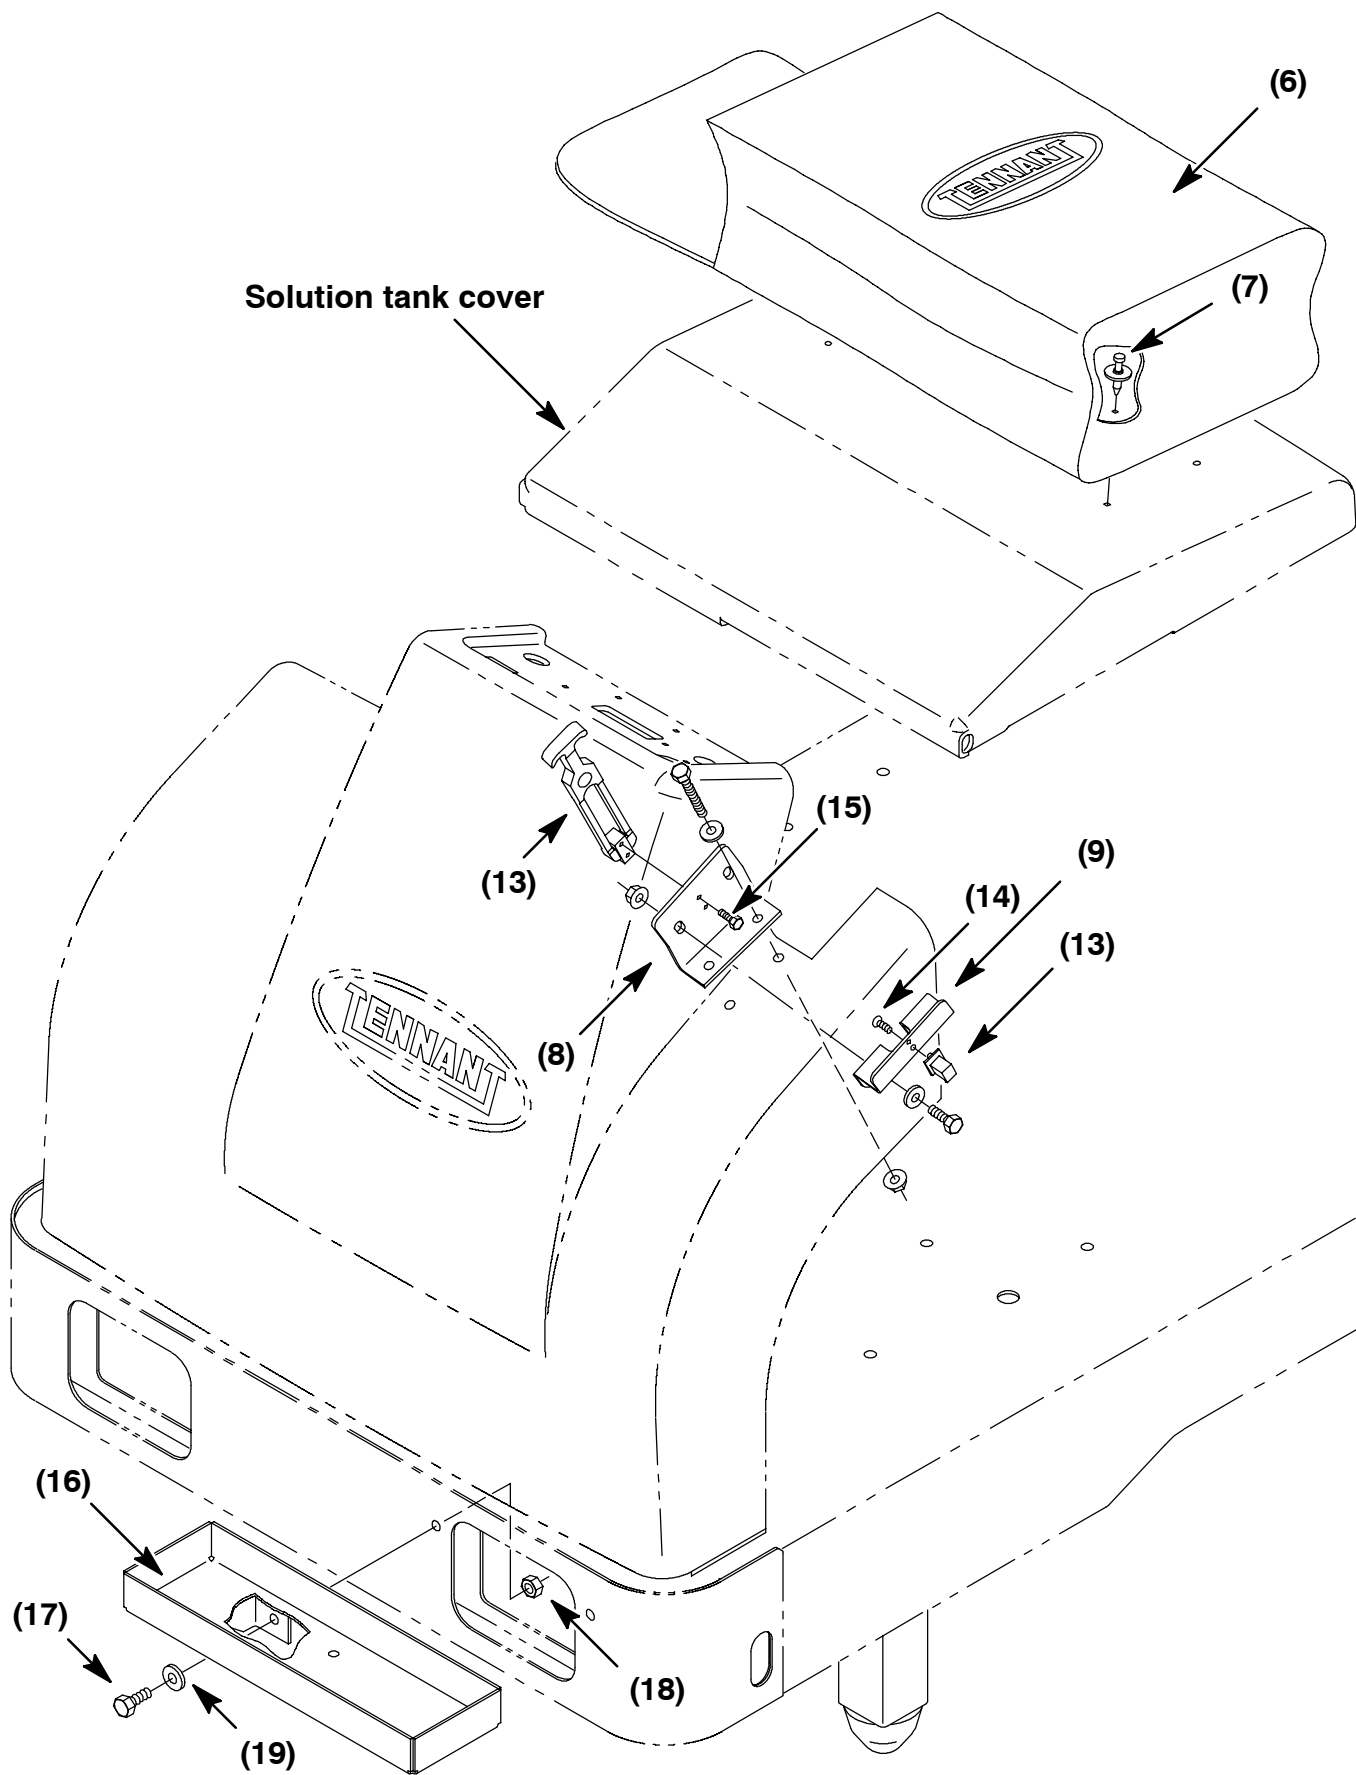

FIG. 5 - Power Wand Mounting Assembly
7. Install the power wand bag (6) onto the top of the tank cover using the four plastic rivets (7). (Refer to FIG. 5)
26. Install the power wand hose (4) into the bag (6). (Refer to FIG. 5 and 7)
27. Use the draw latch (13) to install the power wand assembly (34) on the side of the machine. (Refer to FIG. 5 and 8)